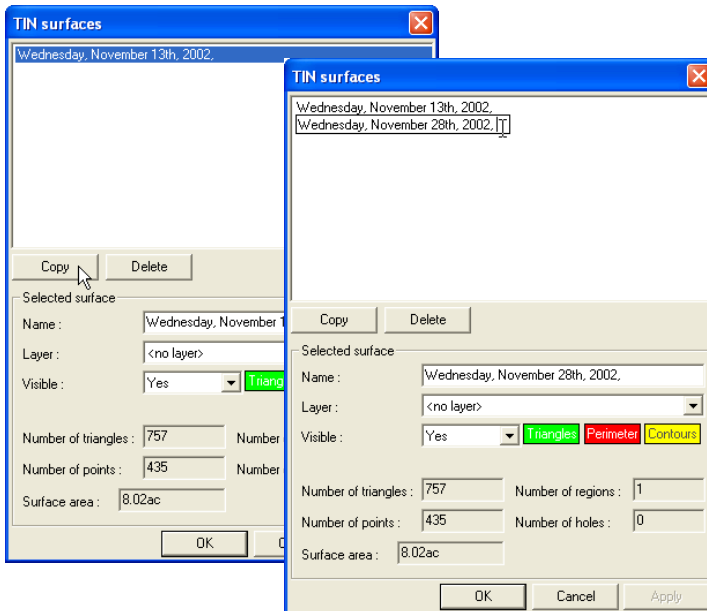

Figure 5-10. Copy and Name TIN Surface
1. On the **TIN surfaces** dialog box, select the TIN surface to copy and click **Copy** (Figure 5-10).
2. Type a unique name for the new TIN surface and press **Enter** (Figure 5-10).